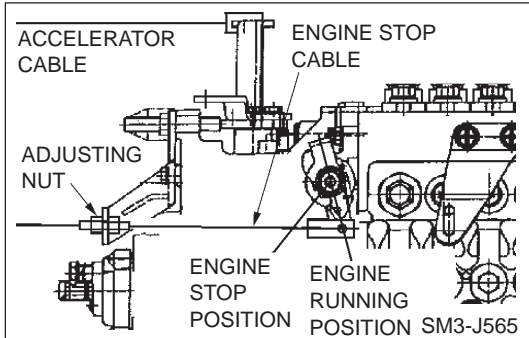

Fig. 4
3. Make sure that the engine stop lever of the fuel injection pump is at engine running position as shown in Fig. 4, then disconnect the connectors of the engine stop motor harness.